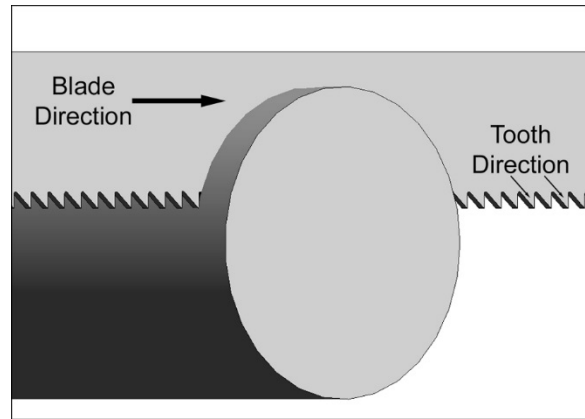

Figure 16
6. Place new blade between blade guide assemblies and around each wheel. Make sure blade teeth are pointing in proper direction (Figure 16). Tension enough to hold in place.